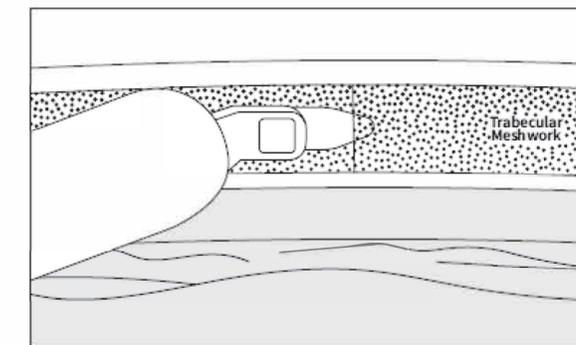
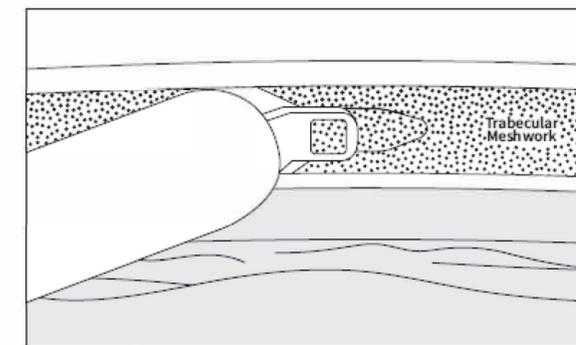

Figure 3: Entry with toe of SION
Figure 4: Advancing the foot in Schlemm’s Canal
- e. With the trabecular meshwork identified, use the toe (Figure 3) of the SION to puncture the trabecular meshwork and advance the lower foot into Schlemm’s canal (Figure 4)